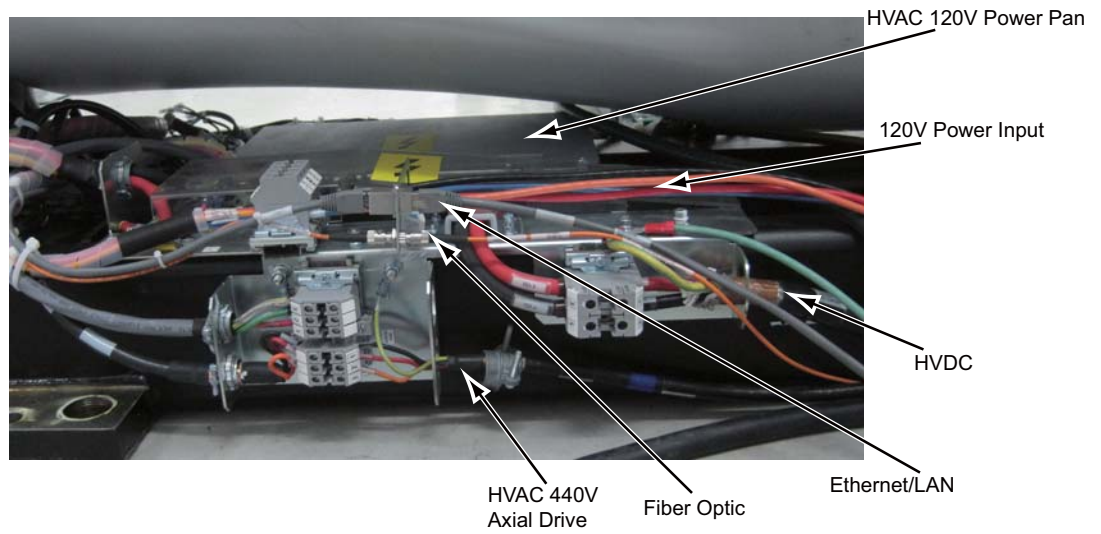
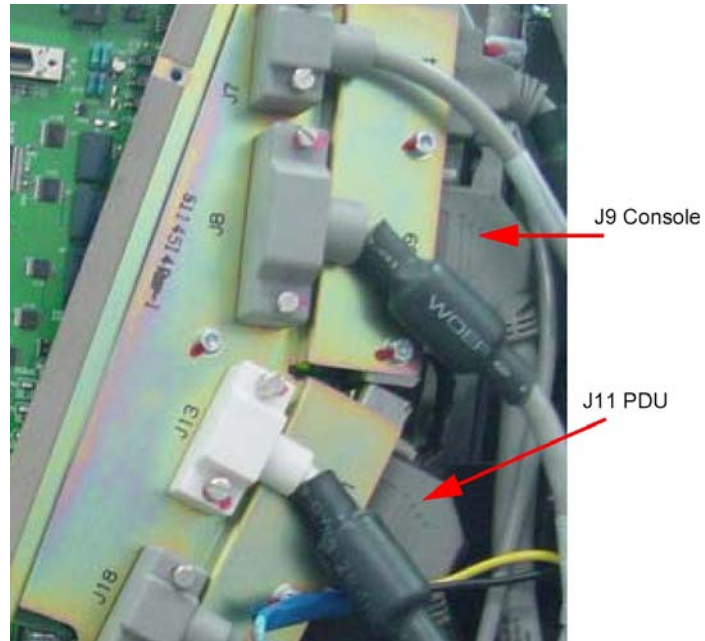

Figure 2-31 Gantry Power Pan Connections
Figure 2-33 TGP Connections
- 2.) Install the cables to the gantry power pan. The power pan is located on the rear of the gantry at its base. See Figure 2-31 and Figure 2-33 for connections.